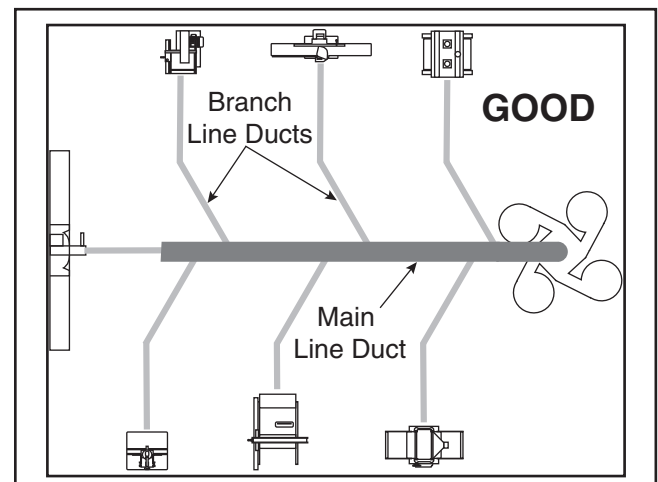

Figure 23. Good duct layout.
2. Ideally, you should design the duct system to have the shortest possible main line and secondary branch ducts. See **Figures 23 & 24** for ideas of good duct layouts vs bad duct layouts.